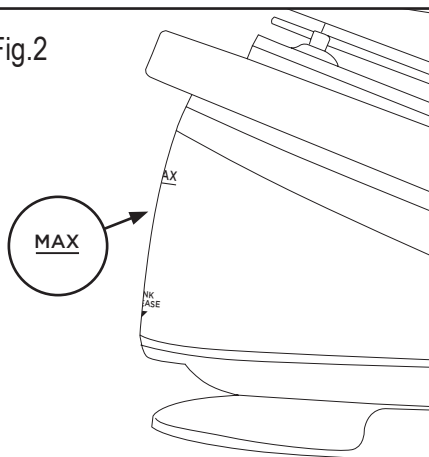

Fig.3
- ♦ Switch the appliance on (On/off) (L) , setting the temperature and steam control (E) to the position that corresponds to the desired temperature. (Fig.3)